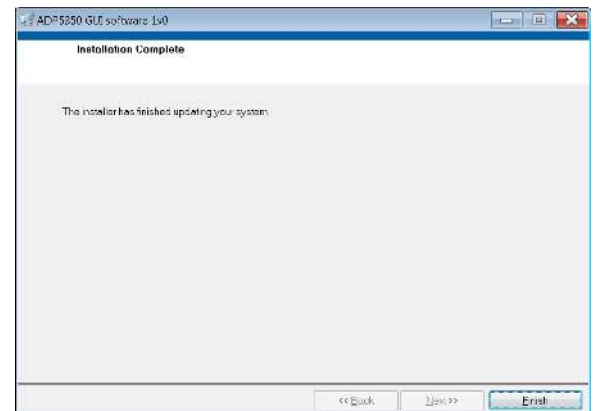

Figure 6. Installation Complete
4. Click **Finish** to complete the installation (see Figure 6).